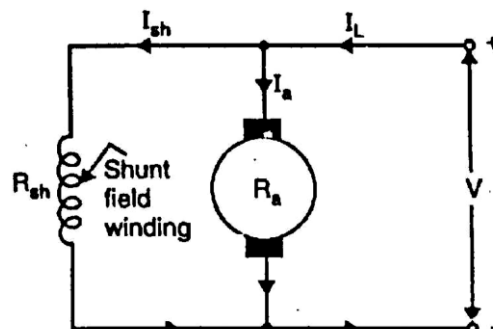

Fig.1
- (i) **Shunt-wound motor** in which the field winding is connected in parallel with the armature [See Fig. 1]. The current through the shunt field winding is not the same as the armature current. Shunt field windings are designed to produce the necessary m.m.f. by means of a relatively large number of turns of wire having high resistance. Therefore, shunt field current is relatively small compared with the armature current.